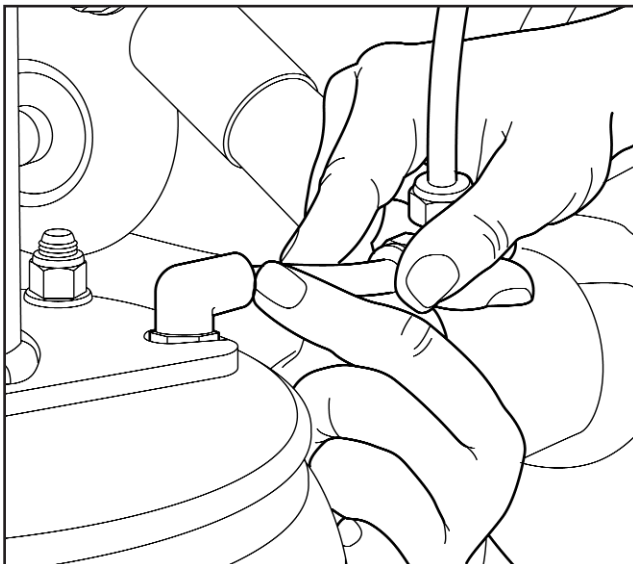

Fig 4.10
6. Connect the airline (Fig 4.10).